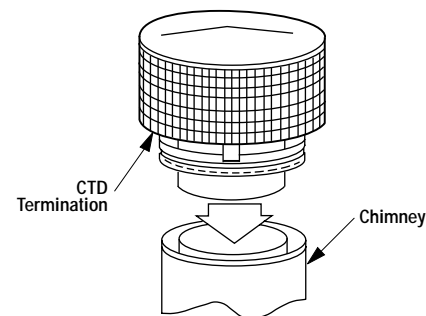

Figure 34
1. Hold the FTF8-CTD over top of last chimney section (*Figure 34*).